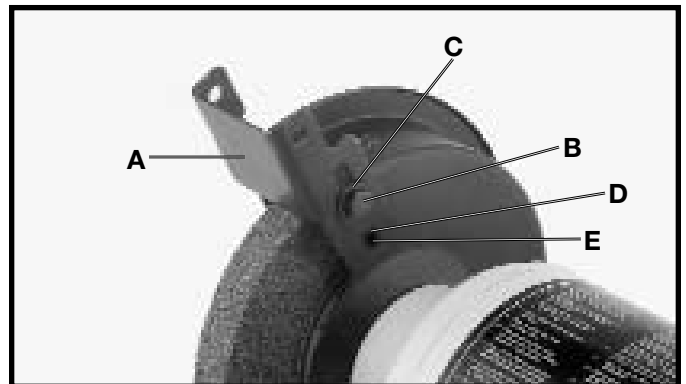

Fig. 5
The spark guard (A) Fig. 5, is mounted to the side of each wheel guard, using the 1/4-20x1/4" hex head screw (B) and 11/16" flat washer (C) as shown. **NOTE: The tab (D) Fig. 5, on the side of the spark guard (A), must be placed in slot (E), before attaching the spark guard (A) to the grinder.** The spark guard (A) should be adjusted as close as possible to the grinding wheel so that sparks never strike the operator's hand. As the wheels wear down, the spark guard (A) should be adjusted accordingly.